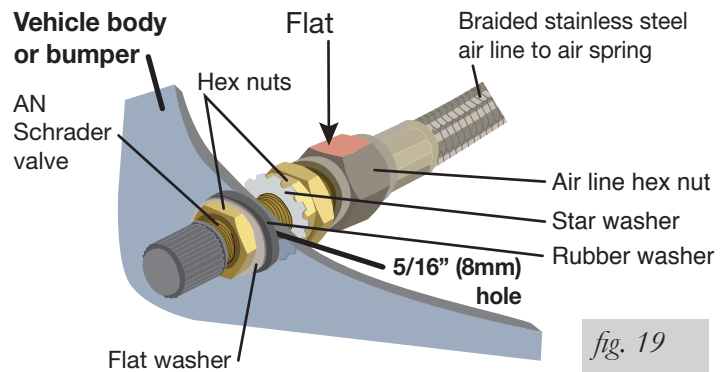

fig. 19
2. Tighten the air line hex nut finger tight, then use 2 wrenches to turn 1 additional flat (1/6 of one full turn). **Do not overtighten** (Figs. 19 & 20). The easiest way to tighten the fitting is off the vehicle. Install the Schrader valve in the chosen location.